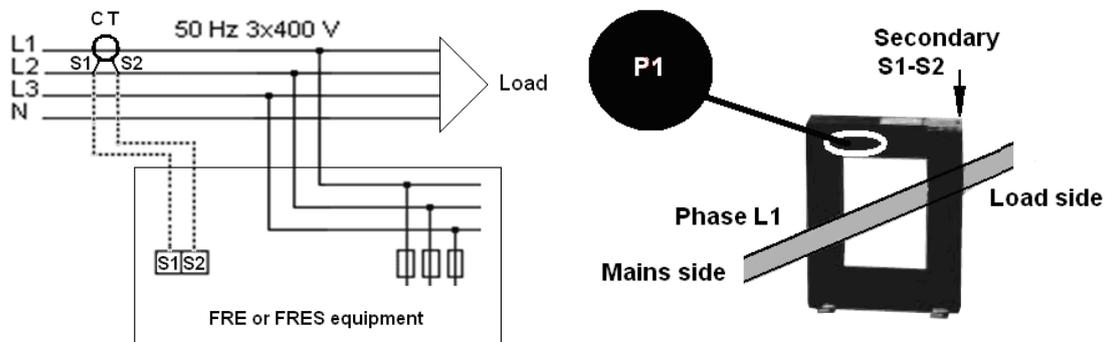

Fig. 5-2 .- Installation of the current transformer (CT) (external)
5.3.5 Connecting the current transformer (CT)
<p>An external current transformer (CT) must be installed to measure the total load current plus that of the filter (see Fig. 5-2).</p> <p>The standard transformer must have a nominal secondary output of 5A. We recommend connecting the CT to phase L1. The primary indications P1 - P2 must be placed in the direction grid to load (see Fig. 5-2). Terminals S1-S2, must be connected to terminals with the same name on cabinet terminal strip (see Fig. 5-2). Avoid the flow of current through the CT primary before closing the secondary to terminals S1 and S2 in the cabinet. If the CT must be installed while the installation is working, make a short-circuit between S1 and S2 while they are not connected to the capacitor bank terminals.</p>